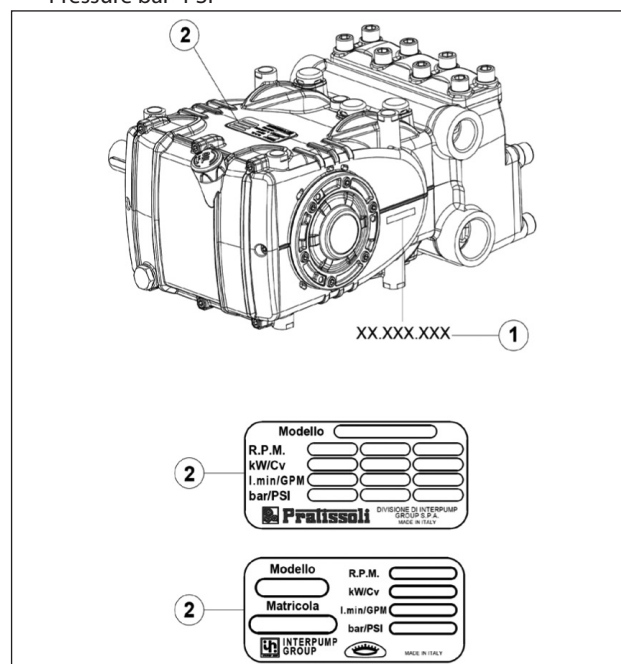

Fig. 1
Each pump has its own Serial No. XX.XXX.XXX see pos. ① and an identification label, see pos ② in Fig. 1 that shows: